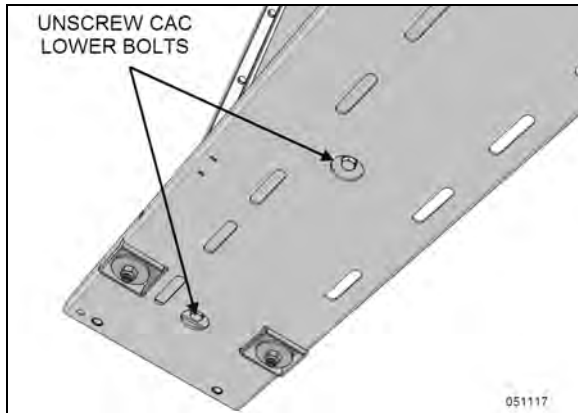

FIGURE 50: LOWER CAC INSULATED BOLTS
10. From under the vehicle, unscrew the CAC from the lower support (two hex bolts with plastic insulating bushings Figure 50).